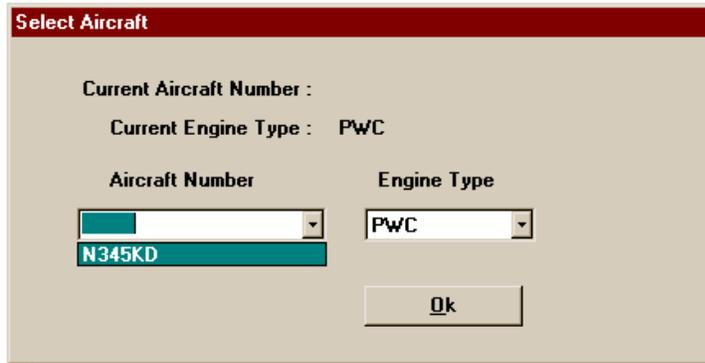

Figure 17. Select Aircraft Screen
4. In the Select Aircraft Screen, use TAB key (or mouse) to select the Aircraft Number field (refer to Figure 17).
4. In the Select Aircraft Screen, user TAB key (or mouse) to select the Aircraft Number field (refer to Figure 17) and press Ok.